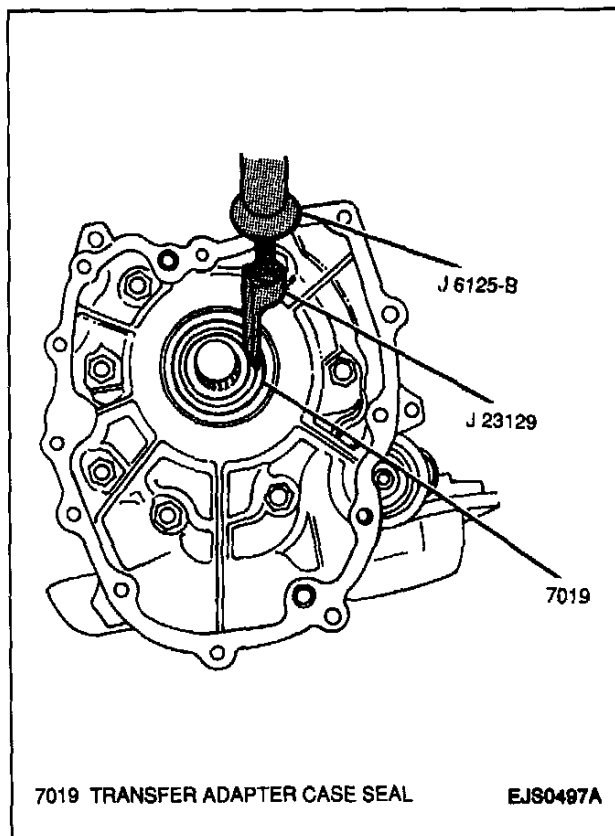

Figure 58—Removing Transfer Adapter Case Seal
Figures 58 and 61
4. Transfer adapter case seal from transfer adapter case using a J 23129 with a J 6125-B (Figure 58).
Figures 58 through 61
11. Transfer adapter case seal from transfer adapter case using a J 6125-B with a J 23129 (Figure 58).